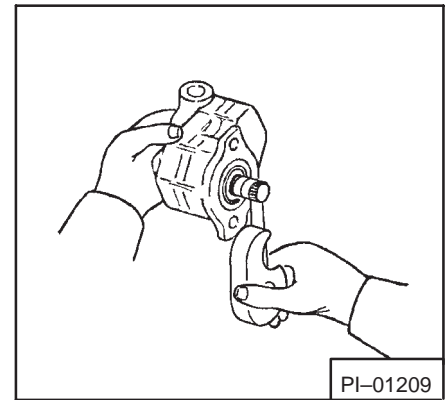

Fig. 26 Wrapping Shaft Spline
4. Neatly wrap the shaft with one layer of transparent tape to prevent the shaft splines or keyways from damaging the new seal when it is being installed. Start wrapping at the seal seat, overlapping each turn about 0.0625 inch over the last, progressing outward (Fig. 26).